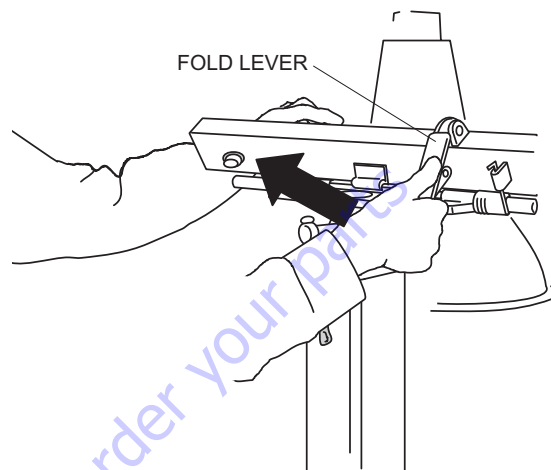

Figure 9. Raising Lamp Stand
1. Support the lighting units with one hand and pull up the fold lever with the other hand. The lever will spring up. See Figure 9.